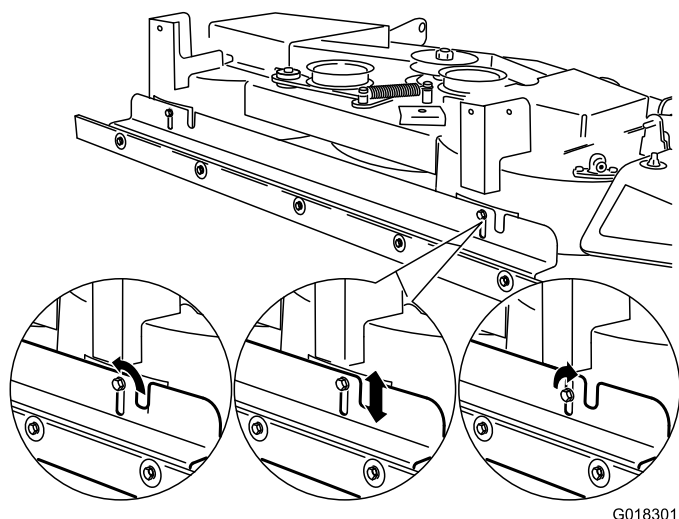

Figure 6
Best results from normal striping are achieved when you set the bottom edge of the wiper to 1/2-1/4 inch below the bottom of the deck (Figure 6).
3. Loosen the 2 washer-head screws (self-threading) that secure the striping bracket (Figure 6).
- Increase the striping effect by lowering the striping bracket until the desired striping effect is attained (Figure 6).
- Decrease the striping effect by raising the striping bracket until the desired striping effect is attained (Figure 6).
6. Tighten the 2 washer-head screws (self-threading) that secure the striping bracket (Figure 6).